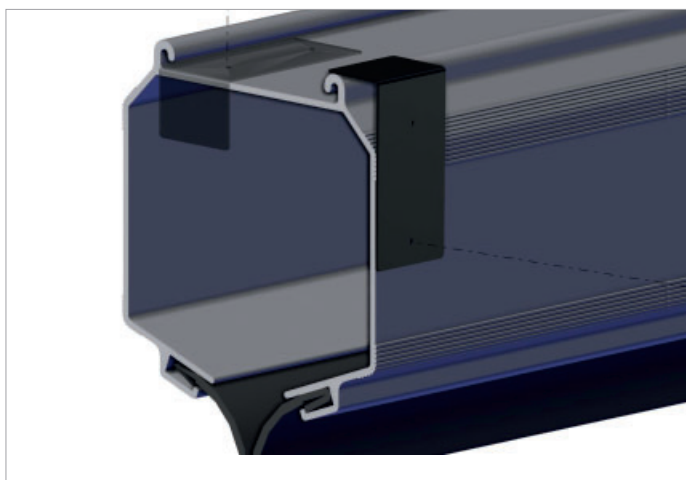

Fig. 4.3.1 Drill template on MRP
- With the use of the drill template, drill four 9 mm holes at the end of the rail. For the holes on the side use the bottom hole of the template. For the holes on the top use the bottom hole on the template. Refer to fig. 4.3.1.